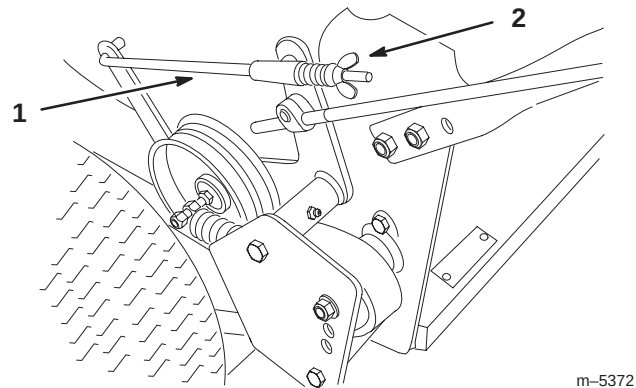

Figure 37
3. To adjust brake, rotate the wing nuts on the brake rods (Fig. 37). Rotate clockwise to tighten the brake and counterclockwise to loosen the brake.